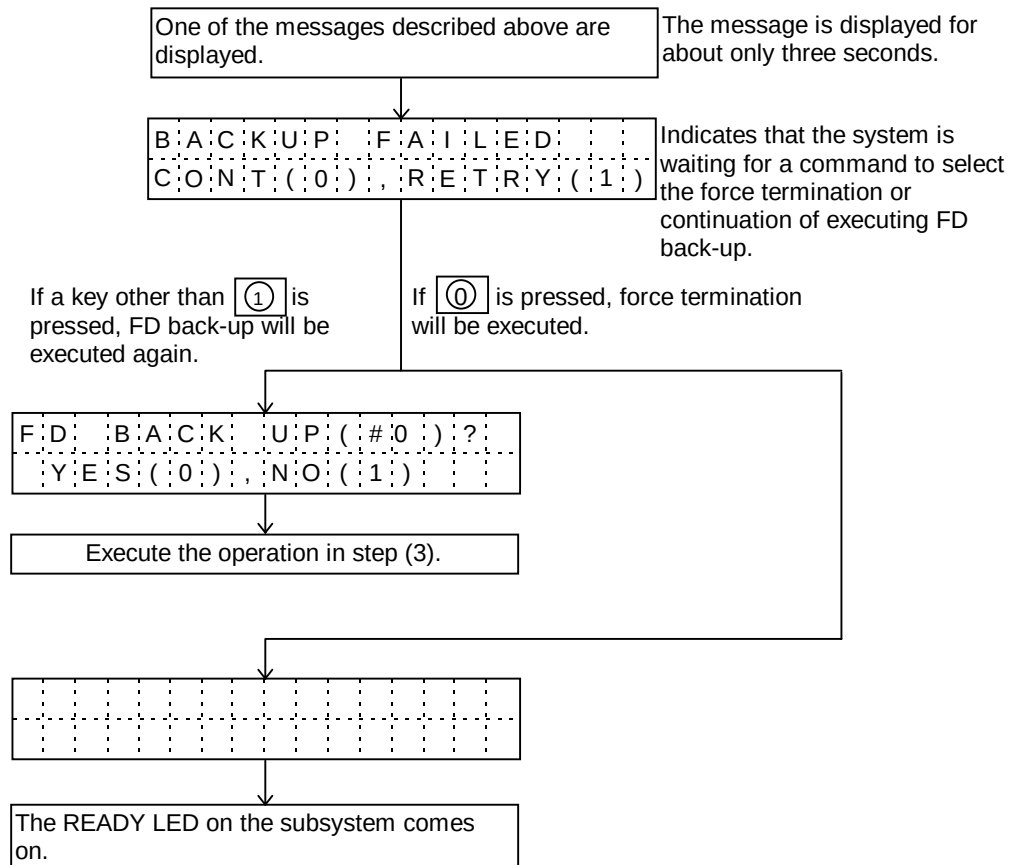

Figure 2.3.2 DIP Switches
(3) Operate as described below.
(4) Set DIP switch No.4 to setting as shown in Figure 2.3.2.